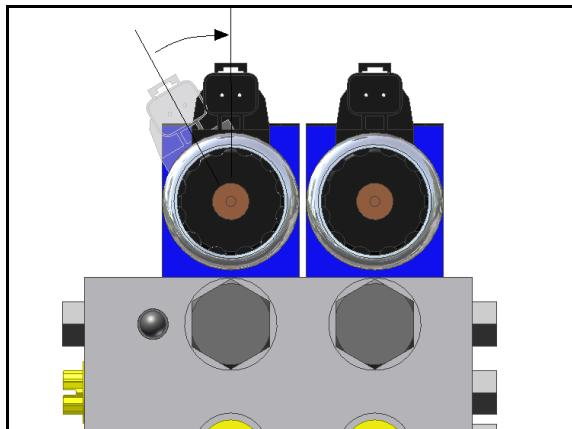

Figure 20: Align Coils
2. Verify the valve coil connectors are oriented vertically (**Figure 20**).